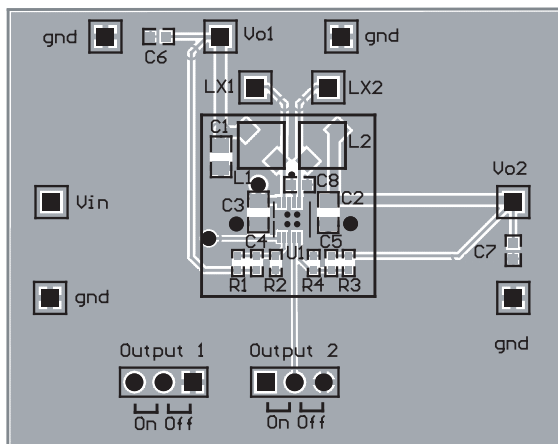

Figure 3: AAT2511 Evaluation Board Top Side.
1. Due to the pin placement of V_{IN} for both converters, proper decoupling is not possible with just one input capacitor. The large input capacitor C3 should connect as closely as possible to V_p and GND, as shown in Figure 3. The additional input bypass capacitor C8 is necessary for proper high frequency decoupling of the second converter.